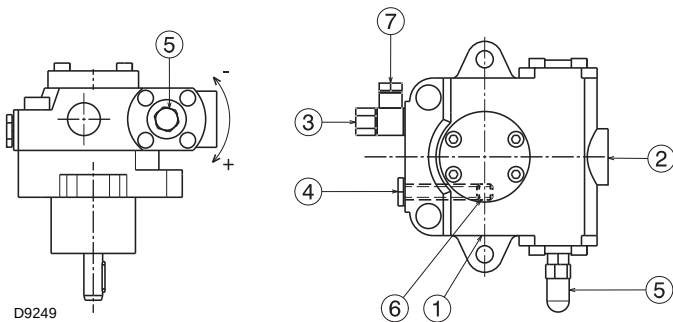

Fig. 23
The pumps are installed on the burner with the by-pass closed by screw 6)(Fig. 23).
- In order for self-priming to take place, one of the screw 4) (Fig. 23) of the pump must be loosened in order to bleed off the air contained in the suction line.
Key to layout (Fig. 23)
The a.m. operation is possible because the pump is already full of fuel when it leaves the factory. If the pump has been drained, fill it with fuel through the opening on the vacuum meter 4) (Fig. 23) prior to starting; otherwise, the pump will seize.
In order to adjust pump pressure, use the relevant screw 5)(Fig. 23). See the information listed on page 19.